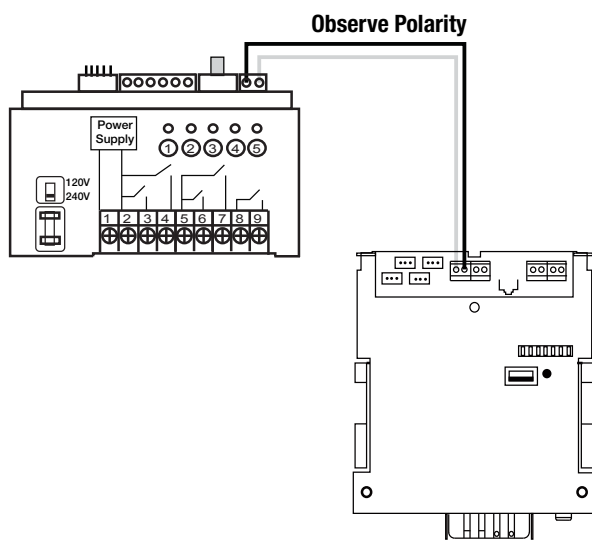

Figure 3-5. PE653 Receiver to P5043ME wiring connections.
2. Connect the communication cable to the proper terminals on the expansion module. See Figure 3-5.
3. Connect the green wire from the unattached end of the communication cable to the connector terminal next to the Cat 5 cable. See Figure 3-5.